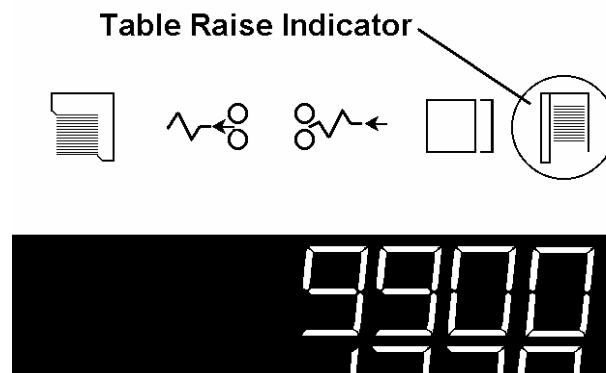

Figure 4
8. Run the duplicator without feeding envelopes. Adjust the height of the feeder while it is attached to the cross rod on the press until the RED table raise indicator warning light on the duplicator control panel [Fig. 4] is **off** and the paper tray is not moving up. When properly adjusted the paper bail bar on the press will contact the top of the envelope feeder at the proper height.